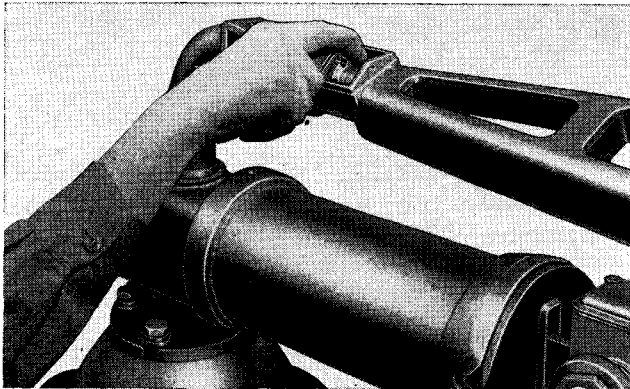

FIG. 2.
(B) The next step is to close the switch blade slowly by rotating the rear insulator stack and again observe the blade tip as it enters the break jaw. The blade tip should enter the break jaw until it touches the blade stop and then rotate to establish full contact pressure. The blade tip should seat firmly against the blade stop before it rotates, but should not be forced too tightly against the stop. If it is forced too tightly against the stop, the effort required to rotate the blade becomes very high. This positioning of the blade tip in the break jaw is controlled by the adjusting nut in the blade operating linkage. Refer to Fig. 2 for this adjustment. First remove the adjusting nut cover. Rotating the adjusting nut so that it moves toward the blade tip will cause the blade tip to go farther down into the break jaw. To raise the blade tip higher in the break jaw the nut should be rotated so that it moves away from the blade tip. When this nut is adjusted correctly it will be pushed firmly against the forward surface of its housing when the blade operating linkage is in toggle or on a straight line with the switch blade. As a final check on this adjustment, close the blade rapidly by rotating the rear insulator stack. When the nut is properly adjusted, blade tip will come to rest on or within  $\frac{1}{4}$  inch of the blade stop at any closing reasonable speed. When the correct setting of this nut is obtained replace the cover and the cover holding bolt. This cover holding bolt will lock the adjusting nut in position.